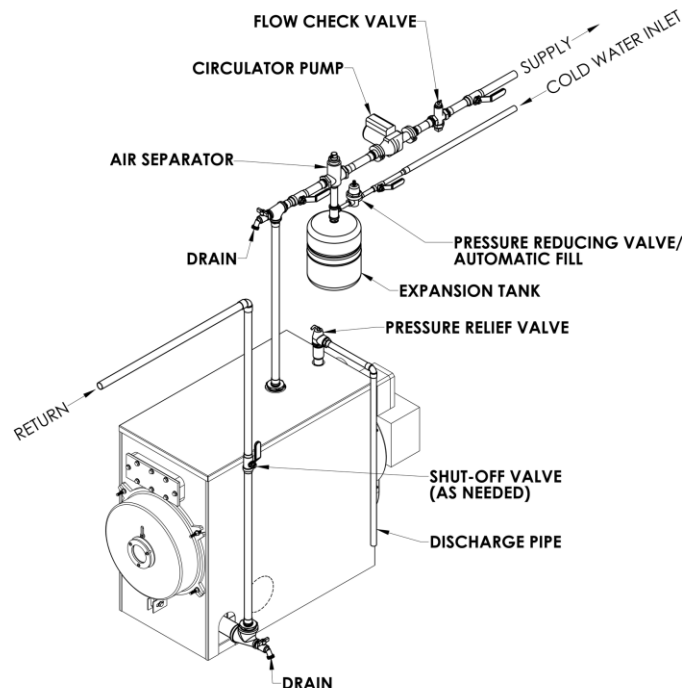

Figure 3 – Hot Water Piping
9. See Figures 3, 4 & 5 below for suggested general piping diagrams.